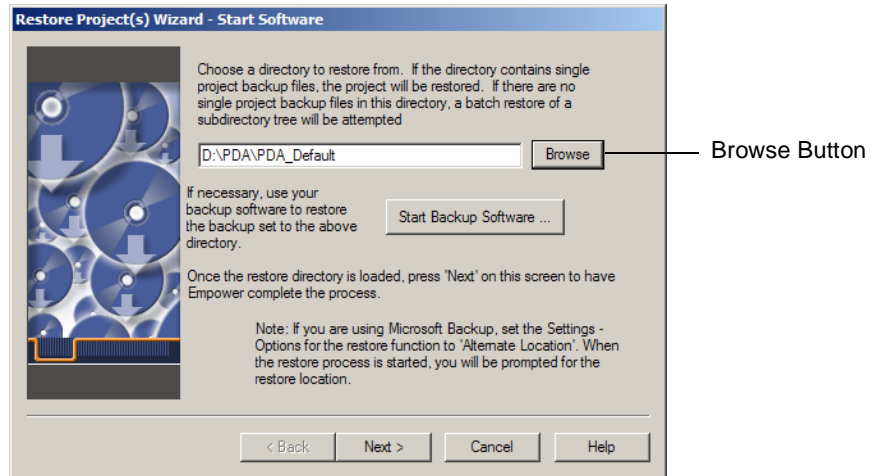

Figure 1-4 Restore Project Wizard - Start Software Page
- Click the **Browse** button to select the path of your CD-ROM drive as shown in Figure 1-4. The drive letter can differ from the one in Figure 1-4.